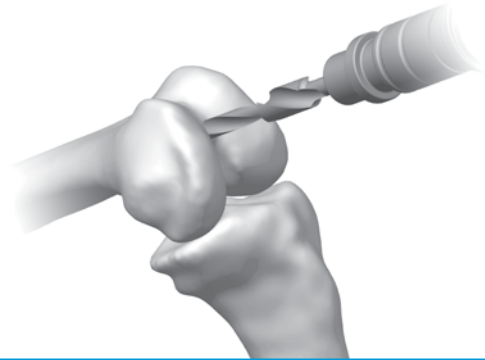

Fig. 109
- Drill the IM canal using the 8mm IM Step Drill (Fig. 109). Suction the canal to remove medullary contents.